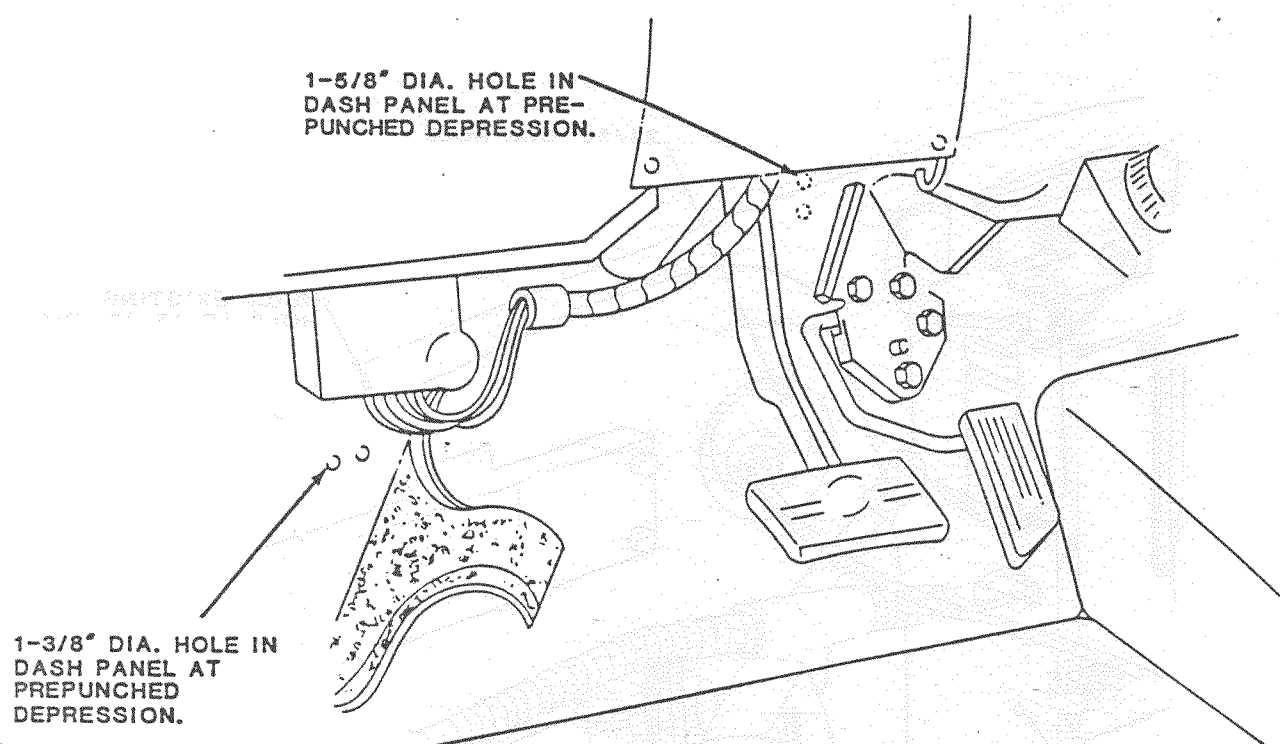

Figure 10.
67. From inside vehicle, remove insulation at perforated marks below fuse box and above gas pedal (Figure 10.).
68. Locate and drill holes in prepunched depressions (Figure 10.).